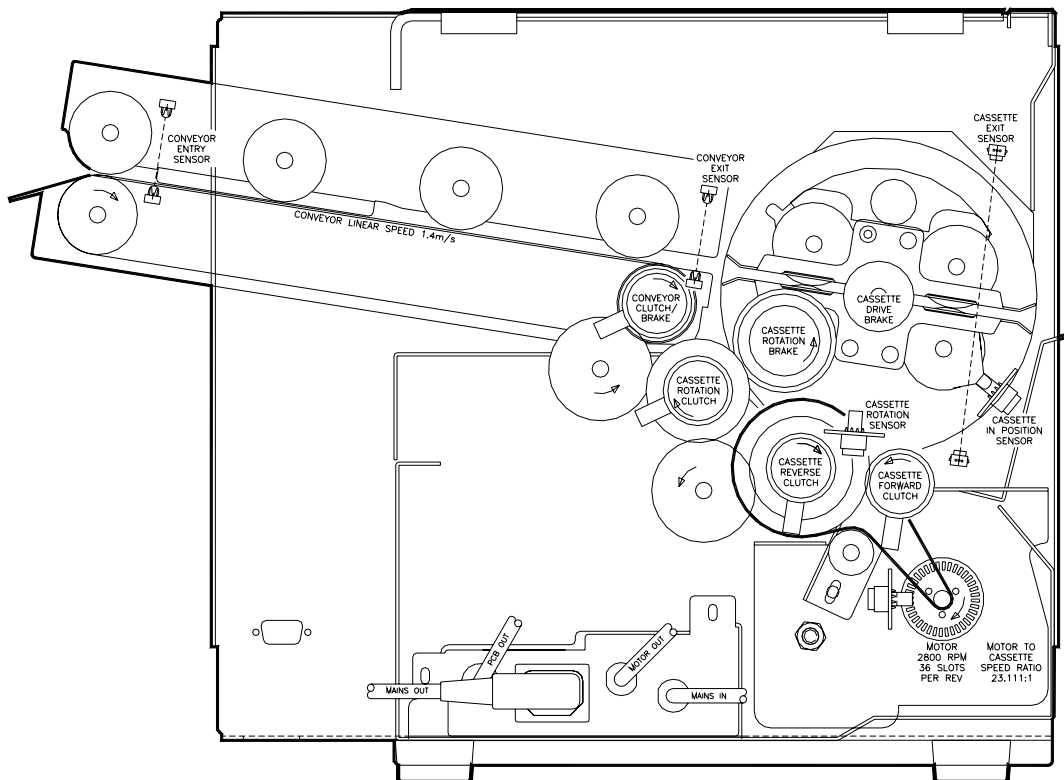

Fig. 2.1
2.2 Sequence of events (see Fig. 2.1 below)